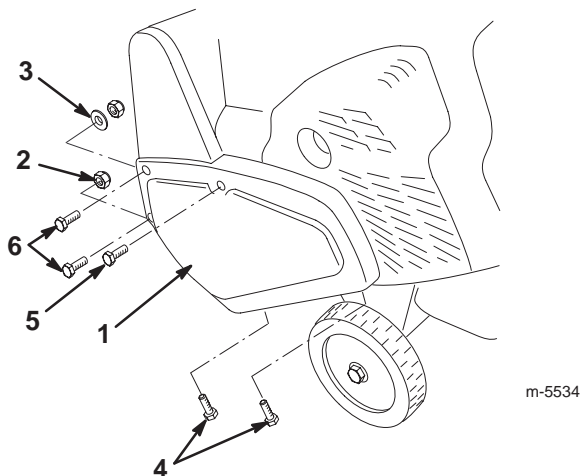

Figure 26
4. Remove the fasteners that secure the drive belt cover to the snowthrower frame (Fig. 26). Set the drive belt cover aside.